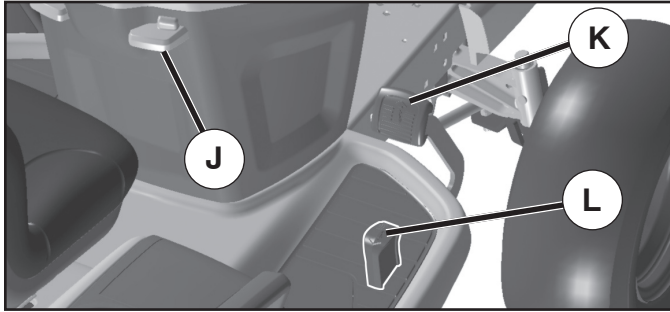

Fig. 20
## TO MOVE FORWARD AND BACKWARD (See Fig. 20)
## TO USE CRUISE CONTROL (J) (See Fig. 20)